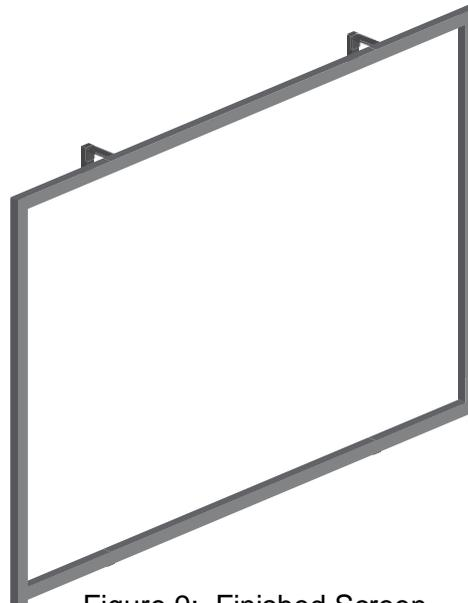

Figure 9: Finished Screen Attached to Wall Boards
9. Attach the frame/screen assembly to the previously mounted wall boards on the wall using the **3/4" hex head bolts** (see Figure 9).